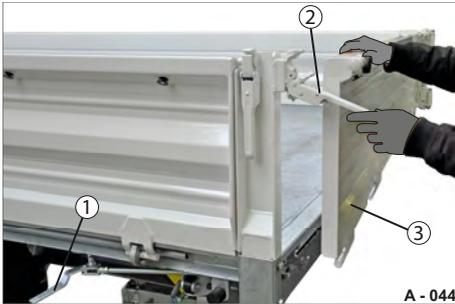

Fig. 62 Swinging gate unlocked
- ▶ Unlock the central locking system (Fig. 62/1) for pendulum mode.
- ▶ Unlock the upper lock (Fig. 62/2) on the opening side.